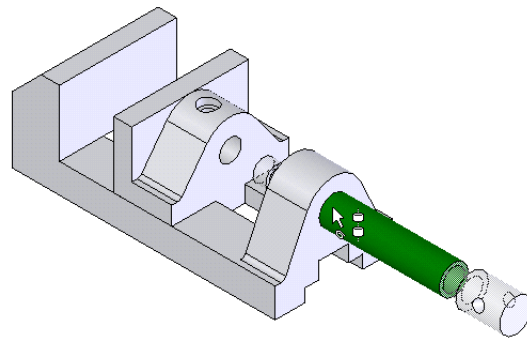

Figure 10-60 Jaw Screw being dragged
6. Drag the Jaw Screw to the hole in the Vice Body, as shown in Figure 10-60; the Jaw Screw appears transparent and the select cursor is replaced by the smart mates cursor. Also, the symbol of concentric mate is displayed below the cursor.